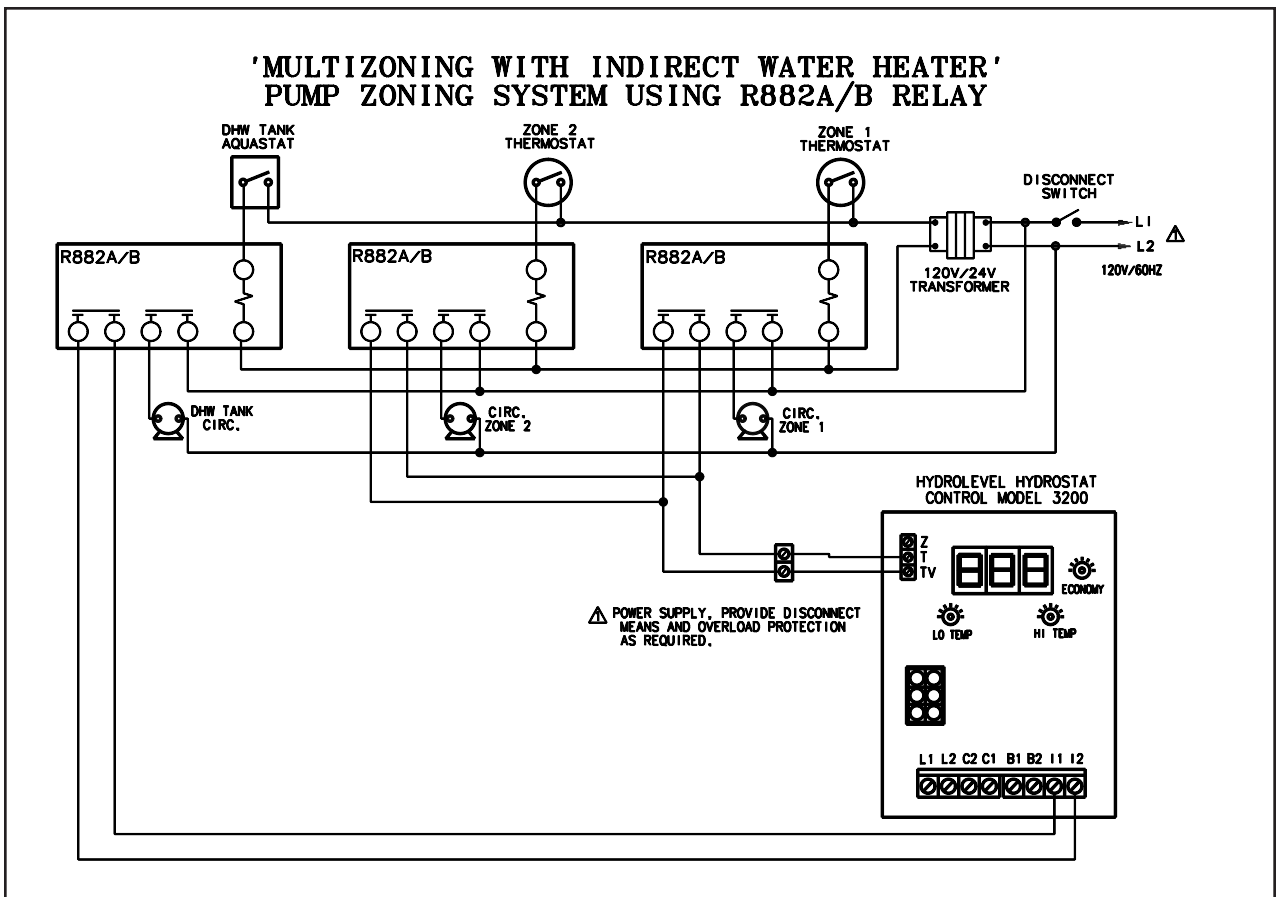

Figure 6. Multizoning with indirect water heater pump zoning system using R882A/B relays.
If system includes indirect water heater, the indirect signal must be separated from heating zones(s) system. See figure 6 and 8. Follow steps below:
- Power DHW and heating zone(s) circulators through end switch relays as shown on figure 6. Do not connect heating zone(s) circulators to C1 and C2 of the control.